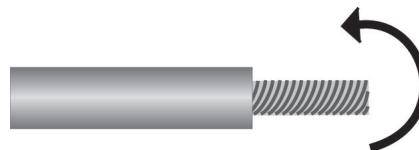

Figure 61. Wrapping the Wire Strands
4. Tightly wrap the wire strands with your finger tips. Refer to Figure 61.